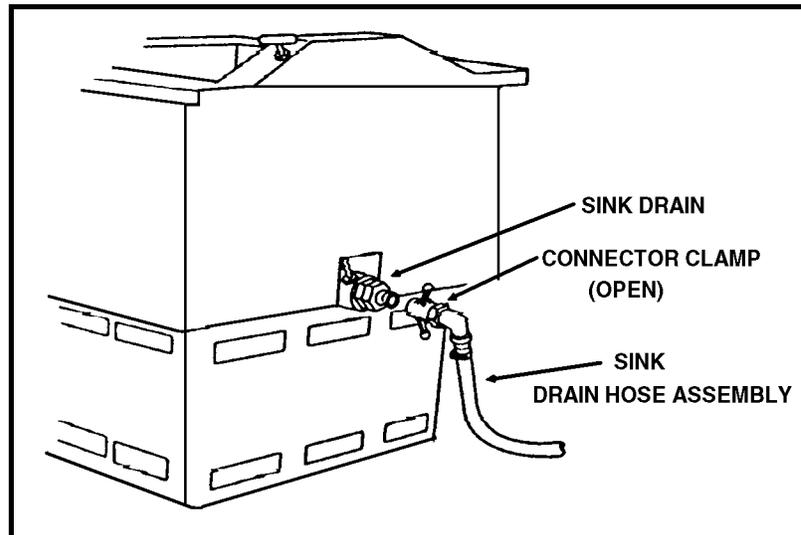

Figure 2-27. Drain hose assembly.
- (4) Connect the sinks with the sink adapter.
- (5) Attach the thermometer bracket on the side of the sink.
- (6) Install the thermometer.
b. Assemble the sink drain hose assembly. (See Figure 2-27.)
- (1) Open each of the clamps on the drain hose assembly.
- (2) Insert each drain hose assembly coupling over each sink drain coupling in the proper order.
- (3) Close each clamp.
- (4) Place the drain hose output into the proper location where minimum mud will form. If excess mud forms during use, relocate the drain hose output end.